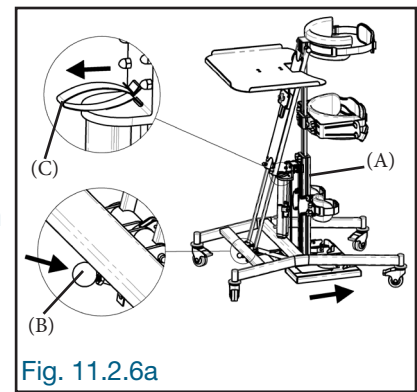

Fig. 11.2.6a
To adjust the tilt of the frame (A) forward, apply slight pressure with the tip of the foot on the lever (B) or pull slightly on the actuation strap (C), and the tilt will occur by itself. Release the pressure on the lever (B) when the desired tilt of the frame (A) is achieved (Fig. 11.2.6a).